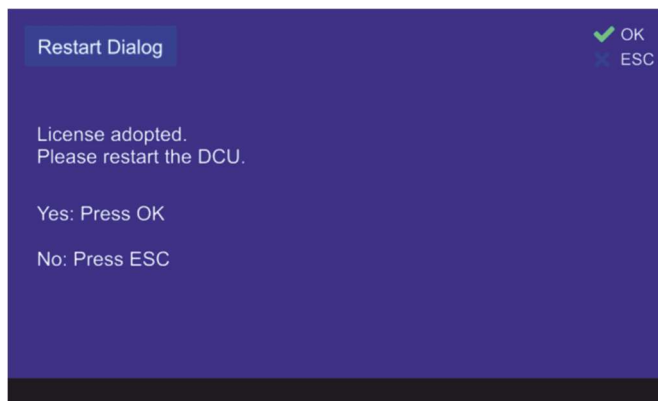

Figure 173. New license adopted
- After confirming the new valid license with “OK”, a dialog opens, which requests the restart of the system. (s. Figure 173).